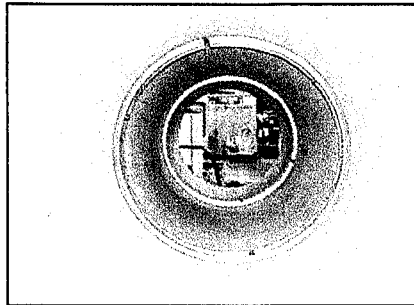

Figure 3 - Installed Damper Rings
- a. Use internal snap ring pliers to compress the radial damper rings (Item 19). Once compressed use a wire of approximately 1/16" diameter to hold ring compressed. Insert damper rings (Item 19) into distance piece (Item 18) and align holes and match-marks on distance piece with holes on damper rings. (See *Figure 3*) Each ring is marked with the end it is to be installed in.